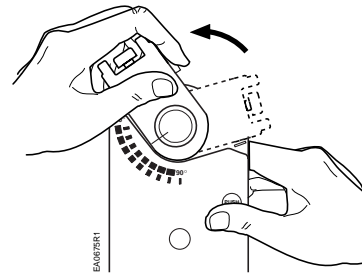

Figure 11.
- b. Hold down the **PUSH** button and rotate the shaft adapter to the left until it stops. Figure 11.